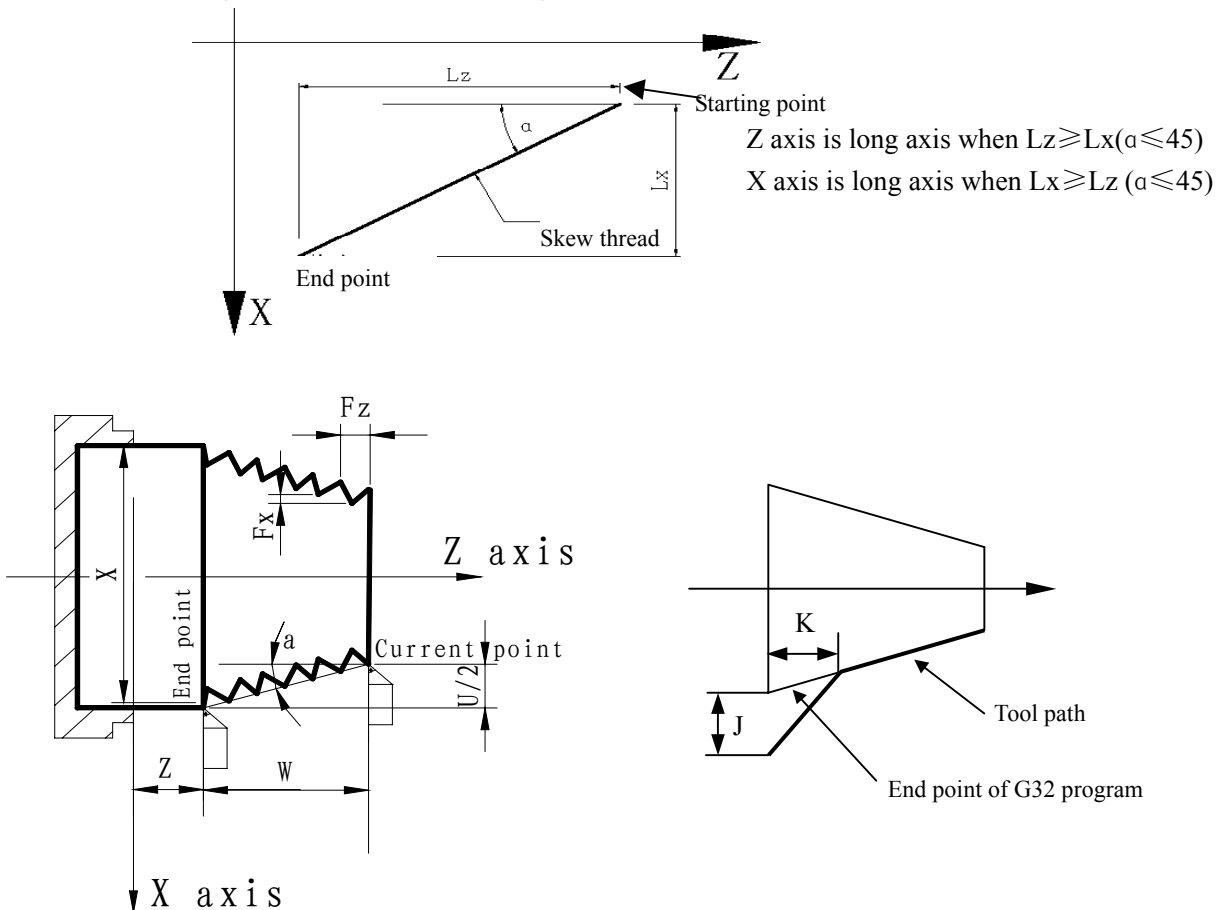

Fig. 3-33 G32 path
**Instruction function:** The path of tool traversing is a straight line from starting point to end point as Fig.3-33; the longer moving distance from starting point to end point(radius value in X direction) is called as the long axis and another is called as the short axis. In course of motion, the long axis traverses one lead when the spindle rotates one rev, and the short axis and the long axis execute the linear interpolation. Form one spiral grooving with variable lead on the surface of workpiece to realize thread cutting with constant lead. Metric pitch and inch pitch are defined respectively by F, I. Metric or inch straight, taper, end face thread and continuous multi-section thread can be machined in G32:
Difference between long axis and short axis is as Fig. 3-33.